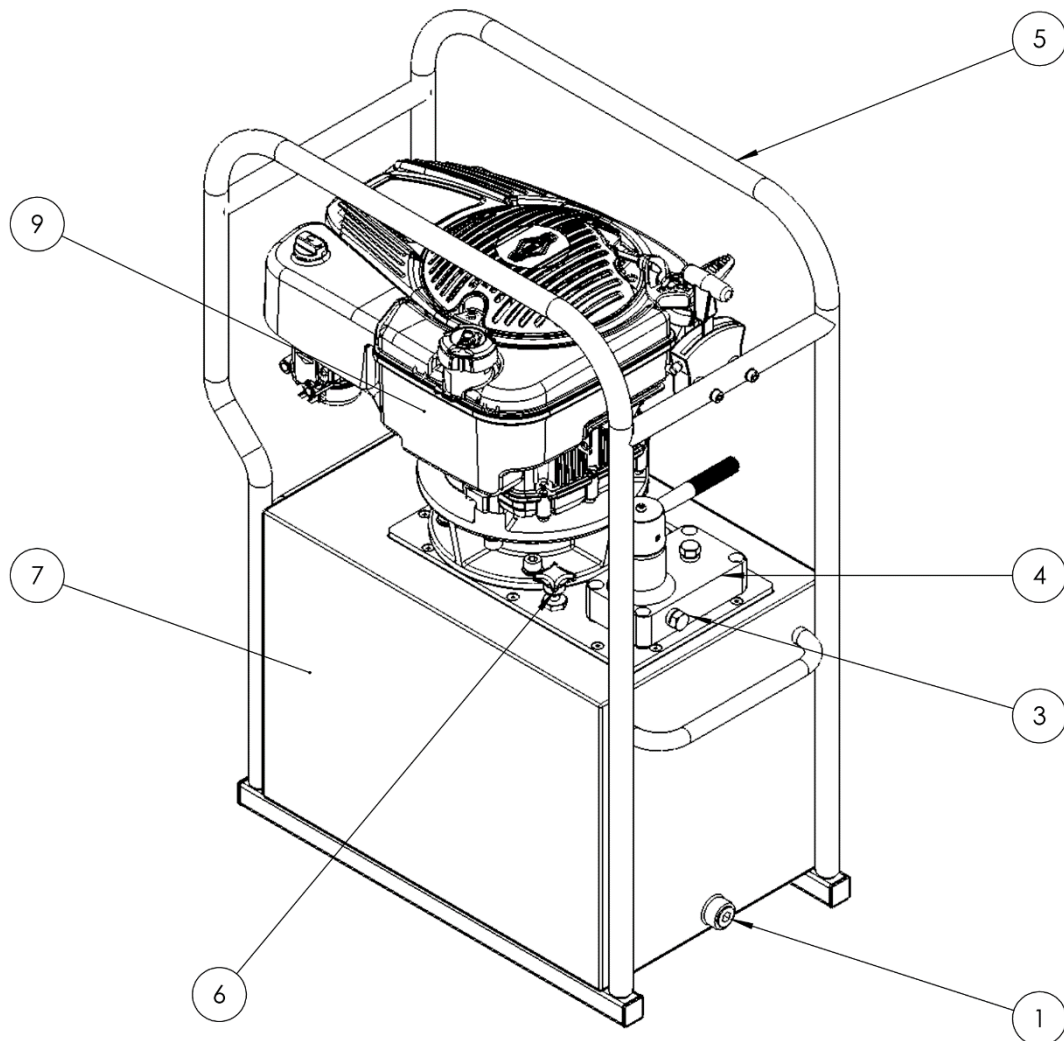

Figure 4.1: Component Identification
2. Remove the temporary transit fitting / plate which is fitted in the position of the oil filler breather cap (8) and fit the oil filler breather cap which is packed separately.
3. Establish the oil level in the oil reservoir using the level gauges (2). Depending on the shipping method used, the reservoir may either be supplied full or empty. If the reservoir is empty, it must be correctly filled before use (See section 5.4). If the pump was supplied full of oil, no further action is required.
**CAUTION:** Ensure the oil level does not fall below the minimum level as shown by the lower indicator (2).
4. Remove the steel or plastic hexagon headed plugs and make hydraulic connections to the service ports (3). These ports have a 3/8" NPT female thread and the corresponding male connections should be wrapped with PTFE tape or other suitable sealant.
**NOTE:** On a pump equipped with a 3-way valve the service port is the one on the right-hand side, when viewed from the front. (See figure 4.1).
5. Ensure the lever of the hydraulic directional control valve (4) is set to the neutral position: This is fully anti-clockwise for models with a 2-way valve, or the central position for models with a 3-way or 4-way valve.
6. Check engine oil level by means of the dipstick located under the engine oil filler cap (11). Top up as necessary.
7. Fill fuel tank with unleaded petrol (gasoline) via filler cap (10).